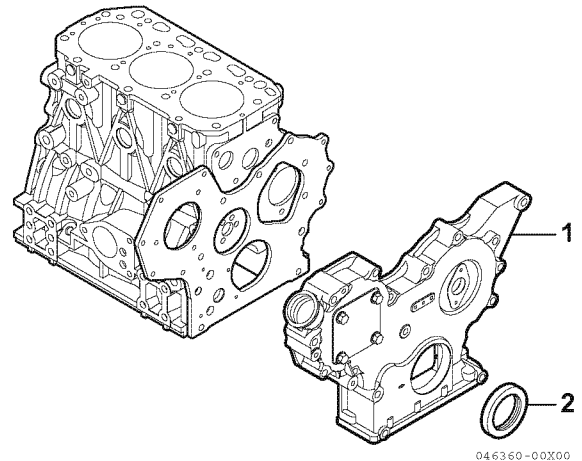

Figure 6-62
1. Remove the seal (2, **Figure 6-62**) from the cover (1, **Figure 6-62**).
2. Apply a continuous bead of ThreeBond Liquid Gasket No. 1207F, YANMAR Part No. 977770-1207F to the outside diameter of a new oil seal (2, **Figure 6-62**), and install in the gear case cover. Apply lithium grease to the lip of the seal.